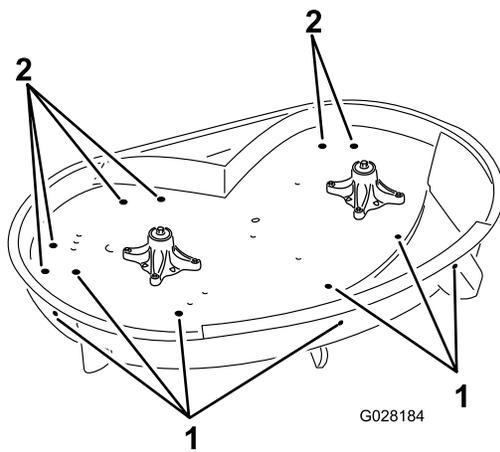

Figure 4
1. Locate the holes illustrated in Figure 4 and proceed as follows: